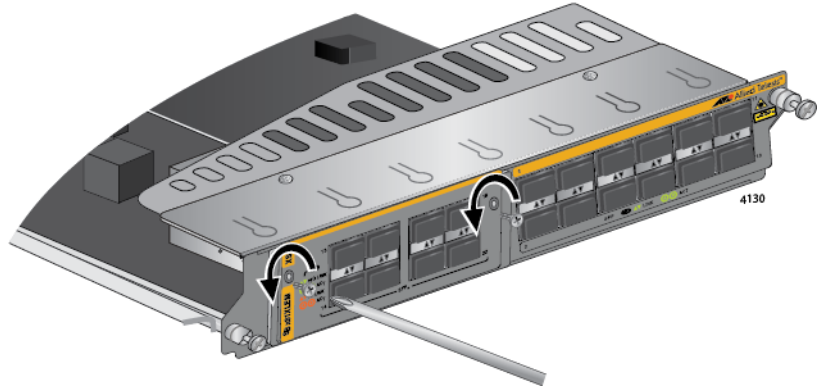

Figure 160. Removing the Screws from the Expansion Module
3. With a Phillips-head screwdriver, remove the two screws that secure the expansion module to the line card. Refer to Figure 160 on page 254.